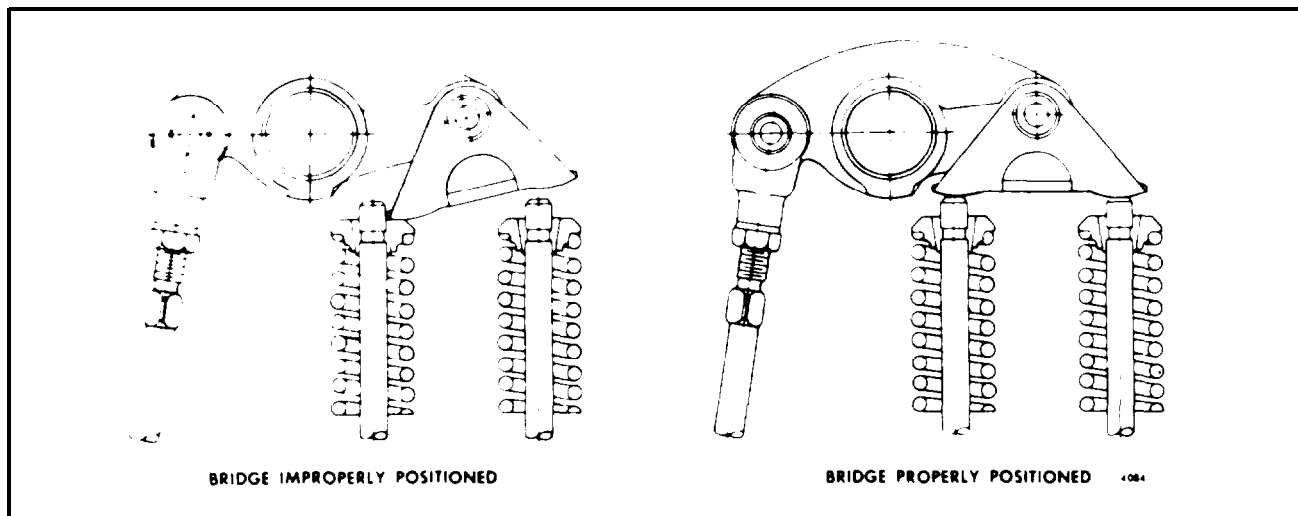

Fig. 43 - Relationship Between Exhaust Valve Bridge and Valve Stems
**CAUTION:** On four valve cylinder heads, there is a possibility of damaging the exhaust valves if the exhaust valve bridge is not resting on the ends of the exhaust valves when tightening the rocker shaft bracket bolts. Therefore, note the position of the exhaust valve bridge (Fig. 43) before, during and after tightening the rocker shaft bolts.